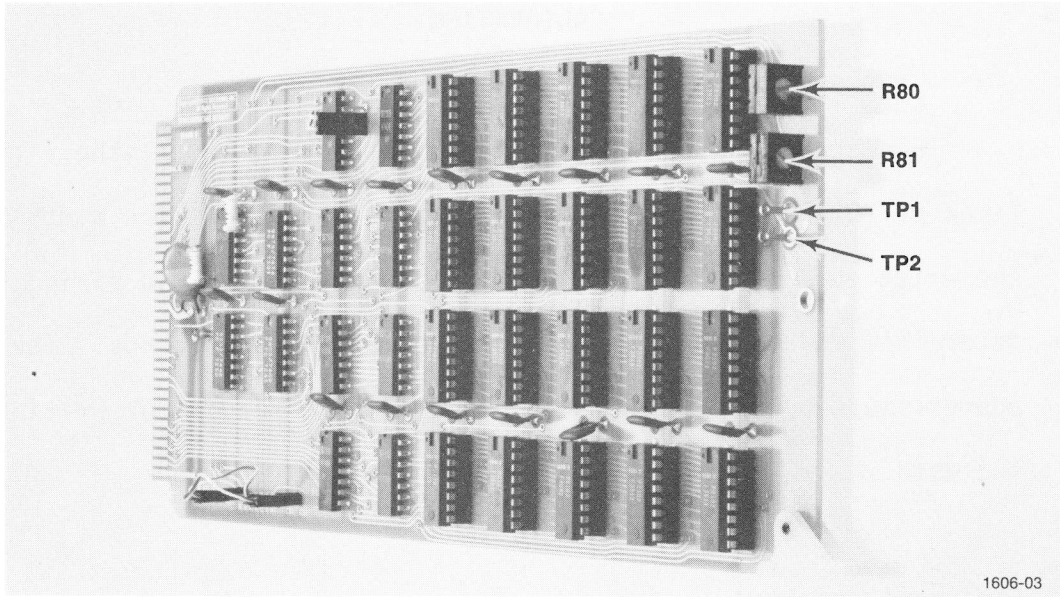

Fig. 2-1. Test Point Location
1. Turn off the DPO power. Remove the four Phillips-head screws located on each corner of the front-panel (P7001). Carefully pull straight out on the handle located on the left side of the panel, and turn it to the left to open. The test points required and the adjustments are located on the front edge of each semiconductor memory board. Each board installed, i.e., one 1K and one 2K, for a 3K memory or two 2K boards for a 4K memory, must be adjusted. Component numbering and location are identical whether 2K or 1K board. See Fig. 2-1.
3. Compensate the 10X probe and attach it to TP1 (see Fig. 2-1).